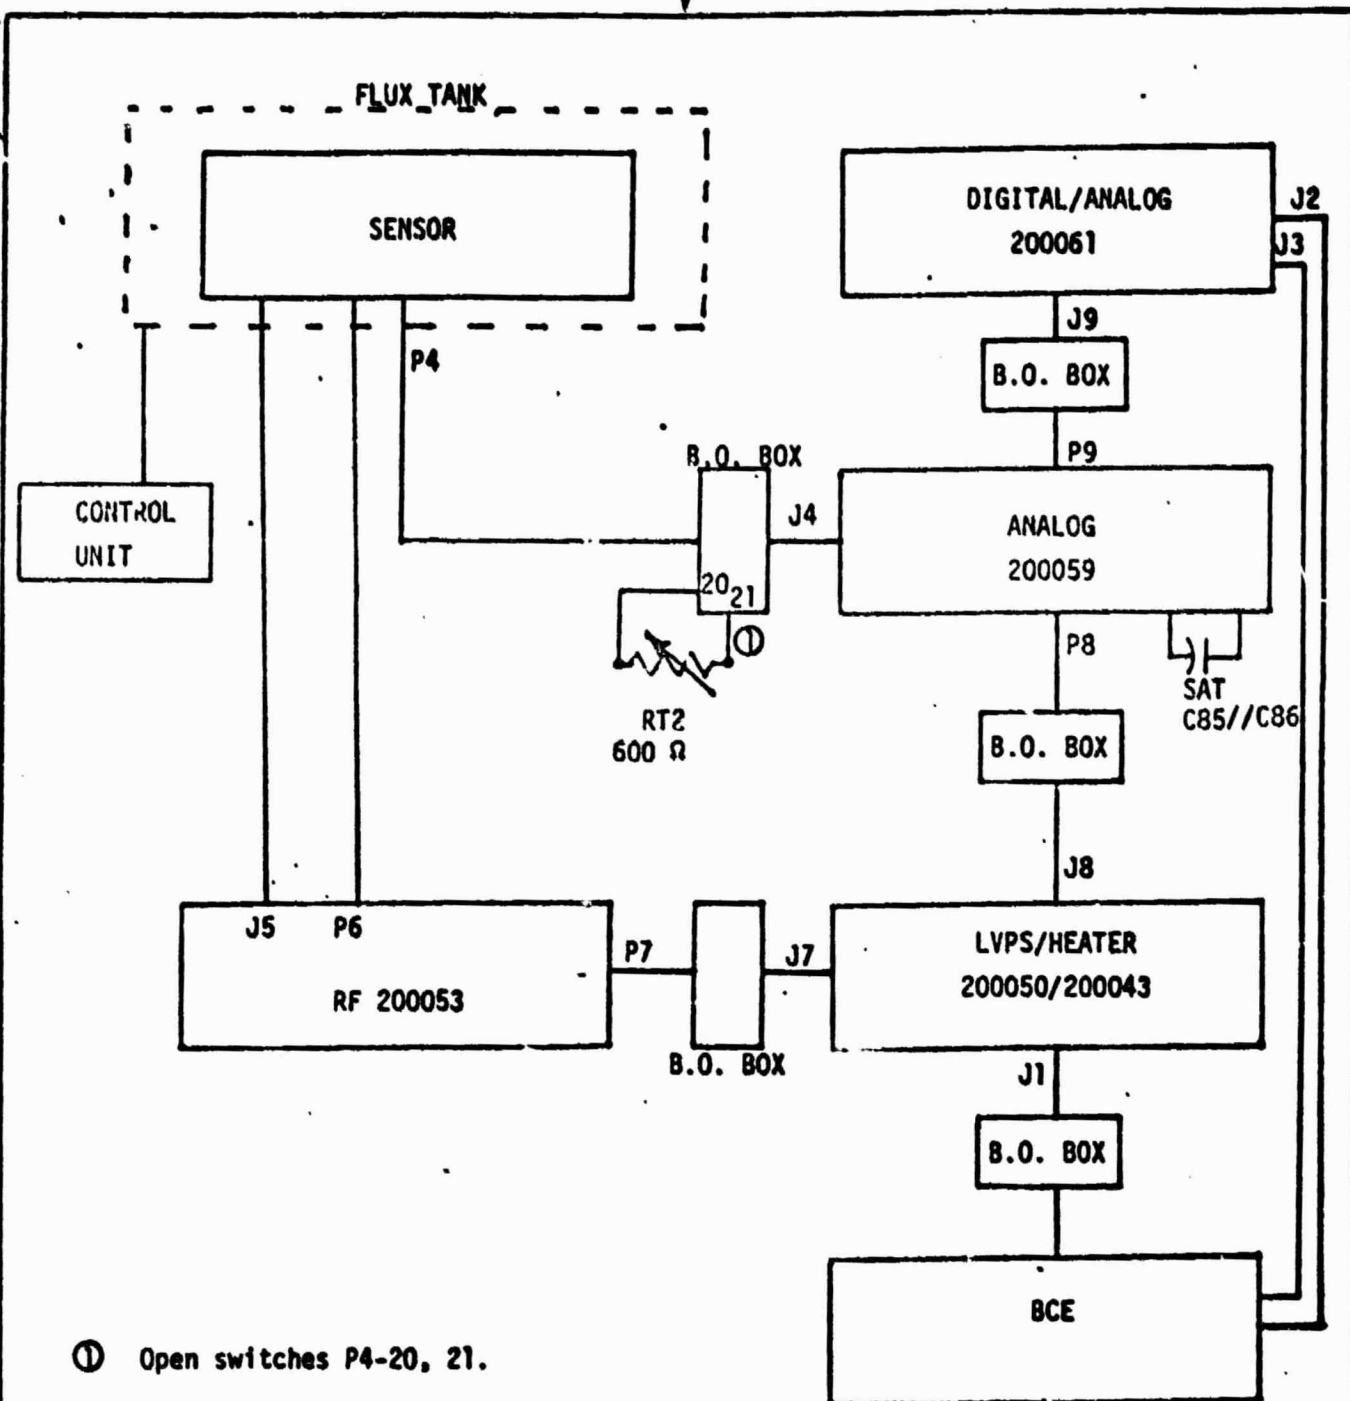

Figure 3. Test Set-Up
- 3.6.2.1 Set up per Figure 3. Ensure the sensor is physically located in the center of the flux tank.
3.6.3.3 Maintain set-up per Figure 3. Set the BCE as follows: